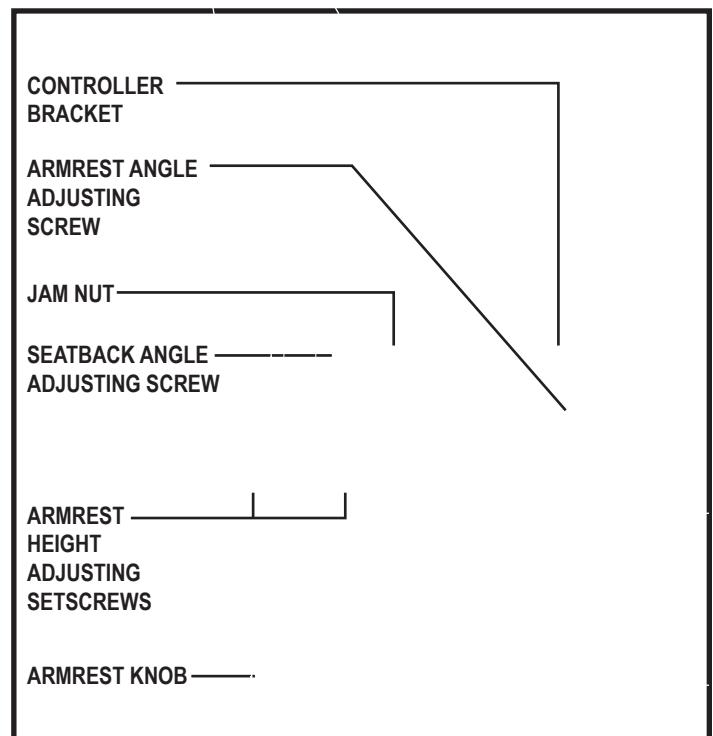

Figure 18. Seatback/Armrest Adjustment
- See figure 18.
1. Locate the two armrest knobs on each side of the armrest receiver bracket. **See figure 18.**
1. Loosen the two setscrews located on the armrest receiver. **See figure 18.**